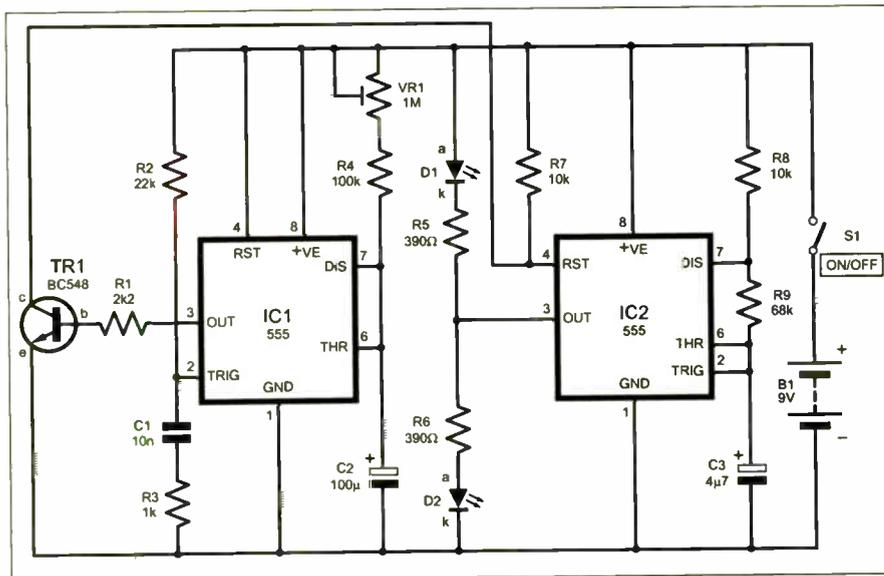

Fig.3. The Terminator speech timer circuit diagram
**A**FRIEND who organises guest speakers for his Probus Club sought my help. Apparently many of the speakers tend to ramble on and exceed the time scheduled for their talk. Could I design an instrument that he could operate from his seat at the back of the room which would discreetly signal the speaker to draw their talk to a close? The terminator circuit shown in Fig.3 is the result!